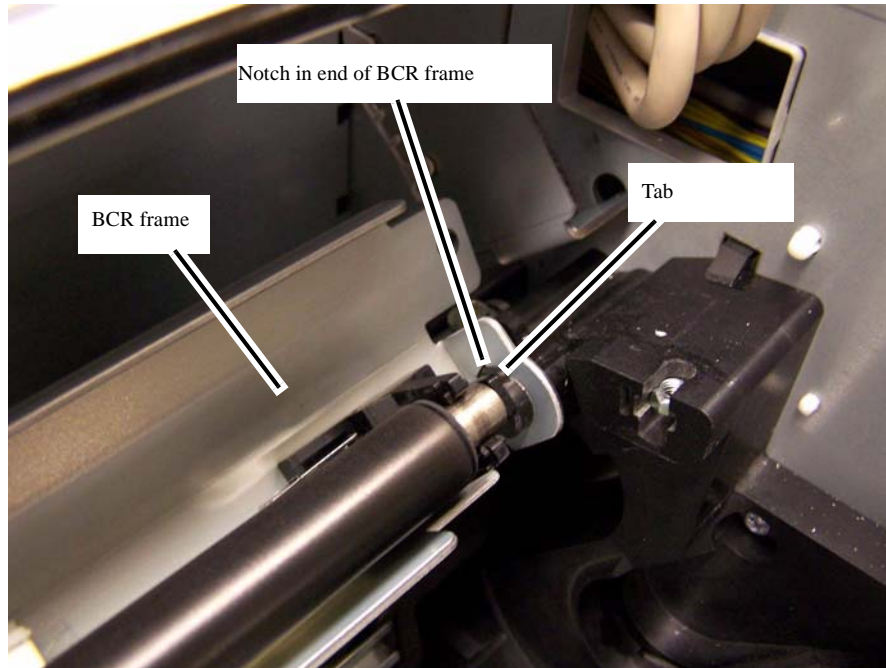

Figure 2 Aligning the notch and the tab to remove the right end of the assembly
- b. Rotate the BCR Assembly until the notch in the right end of the frame aligns with the plastic tab. With the notch and tab aligned, slide the entire assembly to the left to disengage the right end, then move the assembly to the right and remove it from the machine (Figure 2).